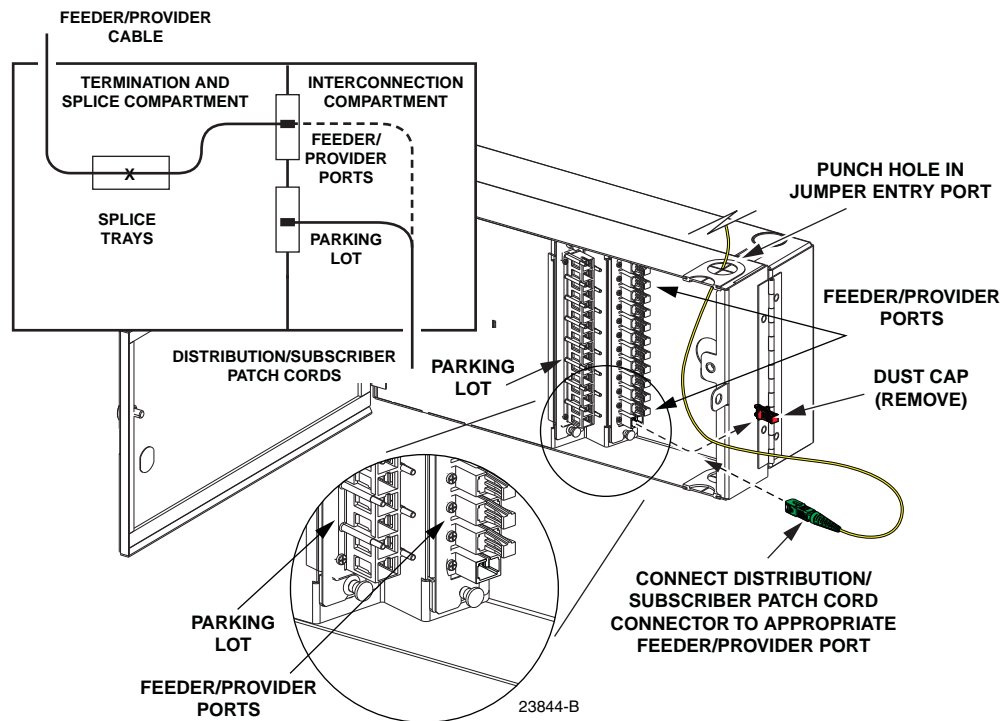

Figure 12. Interconnections - 12-Port IFDT Without Pre-Installed Distribution/Subscriber Pigtails
**12-Port IFDT without pre-installed distribution/subscriber pigtails:** The distribution/subscriber equipment patch cord connectors are temporarily parked in the parking lot. Service is initiated when a patch cord connector is moved from the parking lot to the appropriate feeder/provider port as shown in Figure 12.